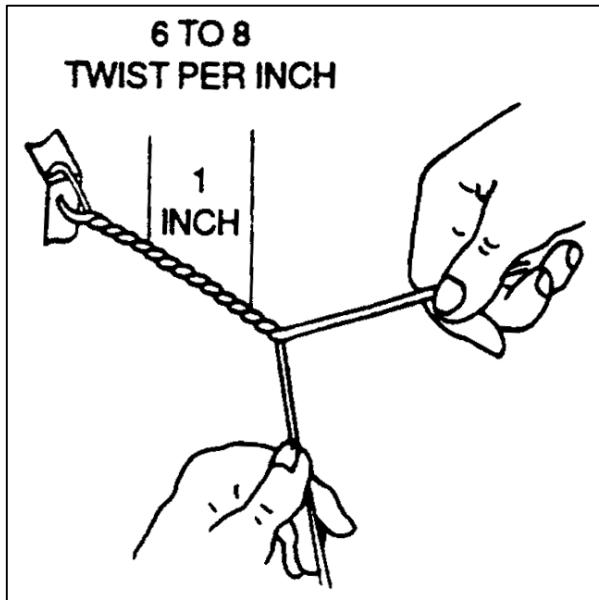

FIGURE 7-3a. Wire twisting by hand.
e. **Safety wire** must never be overstressed. Safety wire will break under vibrations if twisted too tightly. Safety wire must be pulled taut when being twisted, and maintain a light tension when secured. (See figure 7-3a.)
(1) Check the units to be safety wired to make sure that they have been correctly torqued, and that the wiring holes are properly aligned to each other. When there are two or more units, it is desirable that the holes in the units be aligned to each other. Never over-torque or loosen to obtain proper alignment of the holes. It should be possible to align the wiring holes when the bolts are torqued within the specified limits. Washers may be used (see paragraph 7-37) to establish proper alignment. However, if it is impossible to obtain a proper alignment of the holes without undertorquing or overtorquing, try another bolt which will permit proper alignment within the specified torque limits.
(2) To prevent mutilation of the twisted section of wire, when using pliers, grasp the wires at the ends. Safety wire must not be nicked, kinked, or mutilated. Never twist the wire ends off with pliers; and, when cutting off